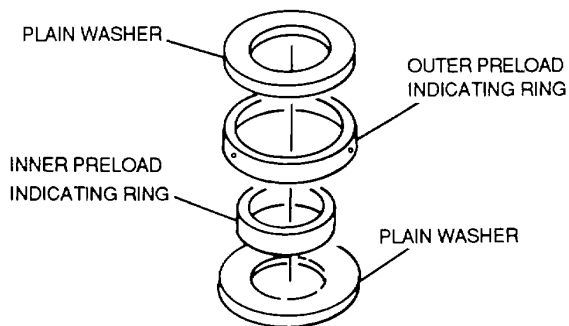

Figure 8-29. Preload Indicating Washers
*b. Preload indicating Washers.* The preload indicating washer, shown in figure 8-29, consists of two plain washers, one inner preload washer, and one outer preload washer. The plain washers mash the inner preload ring into the outer preload ring. When this has occurred, the nut or bolt is properly tightened (see figure 8-30).